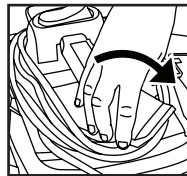

FIGURE 22
45. Grasp the sides of the rear cord wrap and turn clockwise 180° to return it to its original position. **FIGURE 22.**